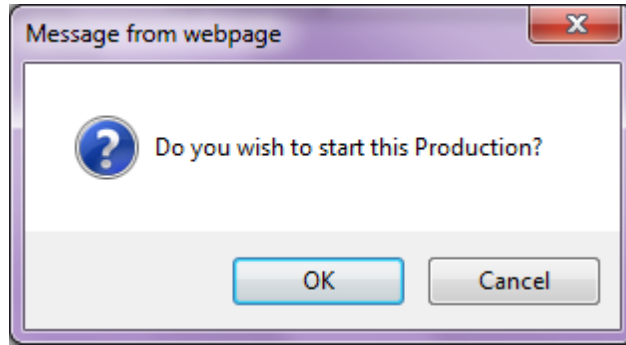

Figure 4-5: **Start Production** confirmation dialog box
3. In the confirmation dialog box, click **OK** to display the Start **Production** page, as shown in Figure 4-5. The Start Production page includes the name of the production, its startup status, and any messages associated with production startup.